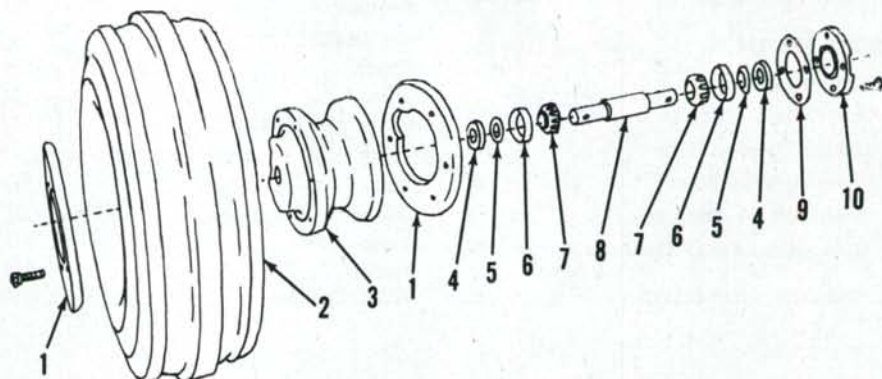

Fig. 2—Exploded view of single front wheel assembly.
To renew bearings and/or seals, first remove wheel assembly; then, unbolt and remove bearing retainer (10—Fig. 2), seal (4), seal retainer (5) and shims (9). Drive or press on opposite end of spindle to remove spindle (8), bearing cones (7) and bearing cup from retainer side of hub. Then drive remaining seal and bearing cup out of hub. Remove bearing cones from spindle.